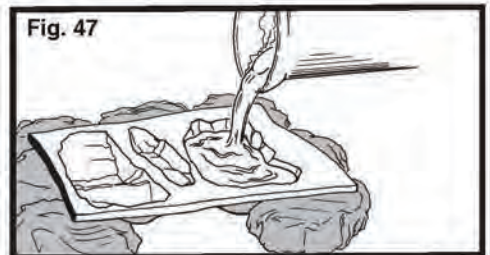

Fig. 47
2. Secure Rock Molds in a level position using newspaper wads (**Fig. 47**).